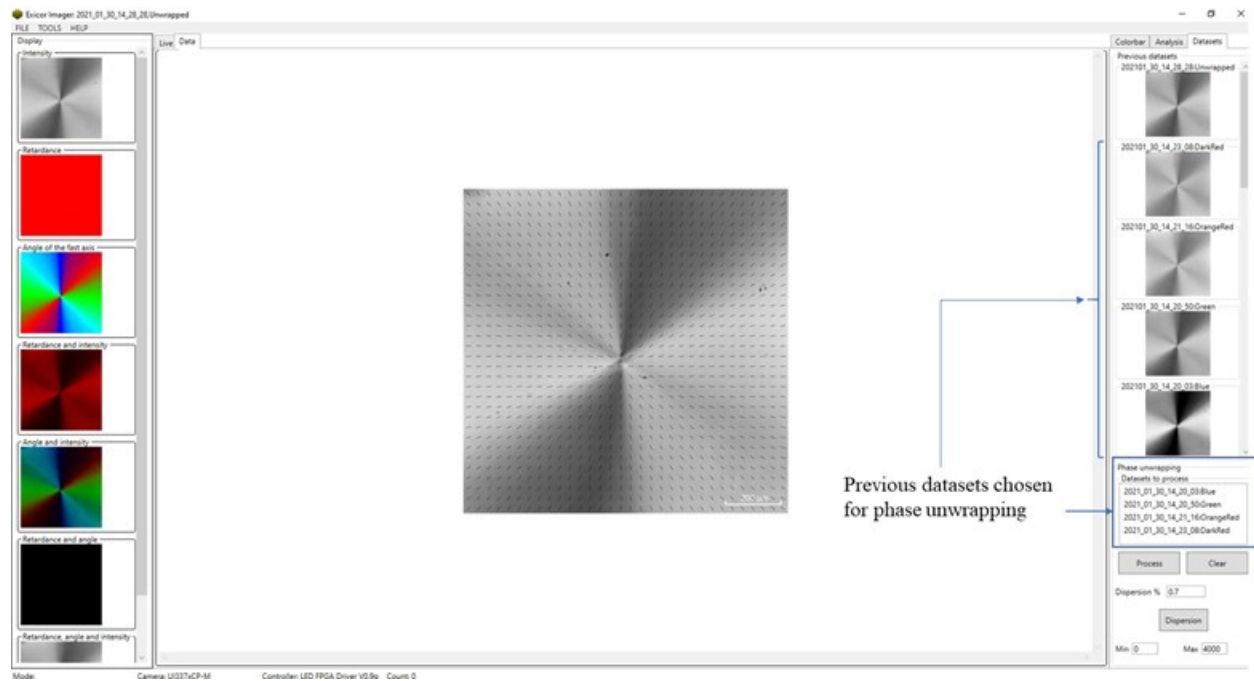

Fig. 12 Datasets window
18. Click the Datasets tab → Although you will see all the previous datasets, click and drag only the datasets that you want to include in the higher-order analysis to the “**Datasets to Process**” area → enter the minimum and maximum expected retardation. The maximum limit of retardation is 4000 nm. This **Phase Unwrapped** dataset will appear in the **Datasets** tab (as shown in Fig. 12) with analyzed numerical values in the **Analysis** tab.